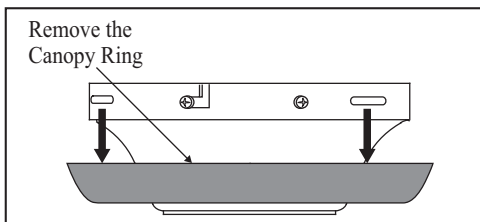

Figure 5
1. Remove the canopy ring from the canopy. (Figure 5).
- Remove the canopy ring from the canopy. (Figure 5)